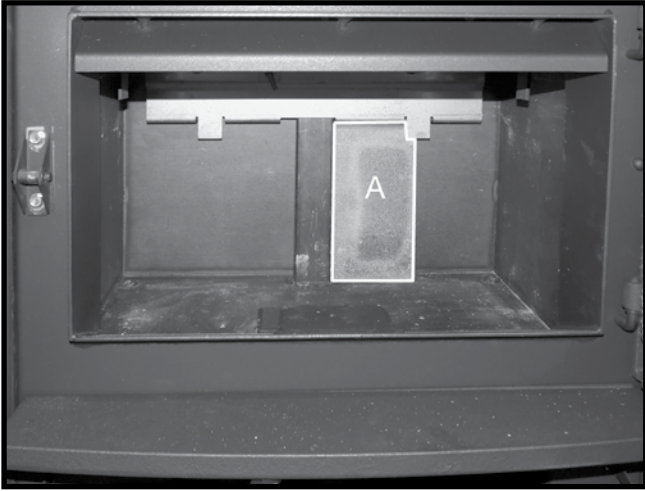

Figure 20: Installing the 1st of the rear wall firebricks.
1. Stand one "A" firebrick vertically behind the tab located on the brick rail. Slide the firebrick toward the center of the rear wall (Figure 20).